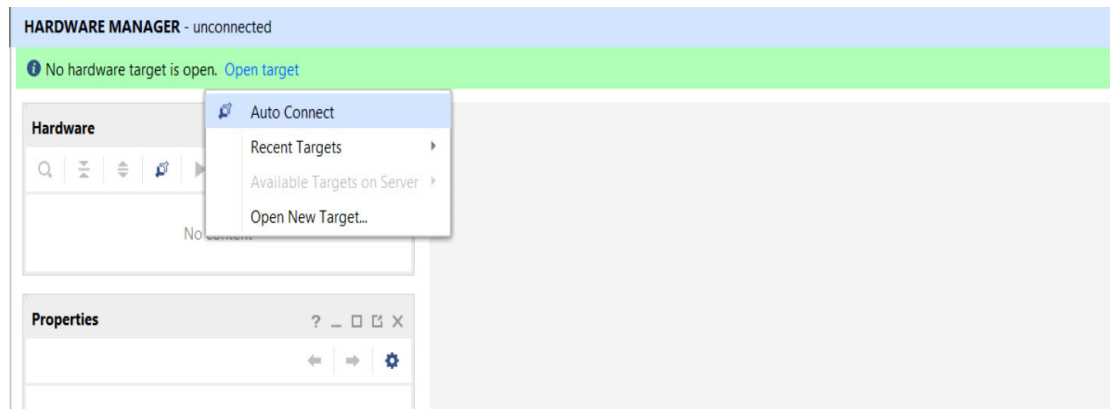

Figure 11: Hardware Manager
- Open and connect to the hardware target by clicking on the **Open Target** link in the Hardware Manager pane and then selecting **Auto Connect** as shown in Figure 11.